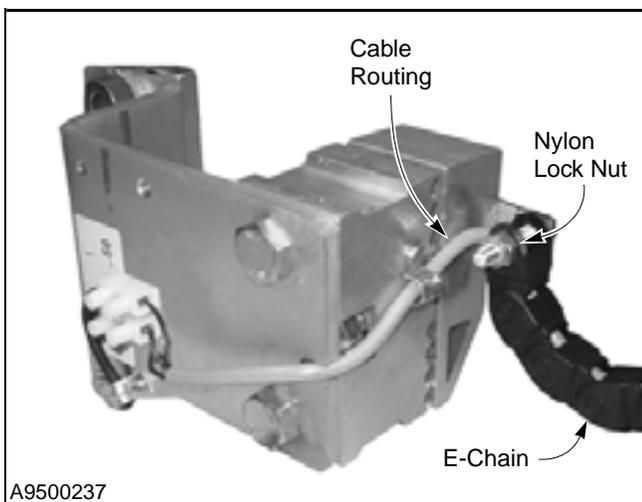

Figure 72
5. Route cable to the front of the end block. (See Figure 72.)